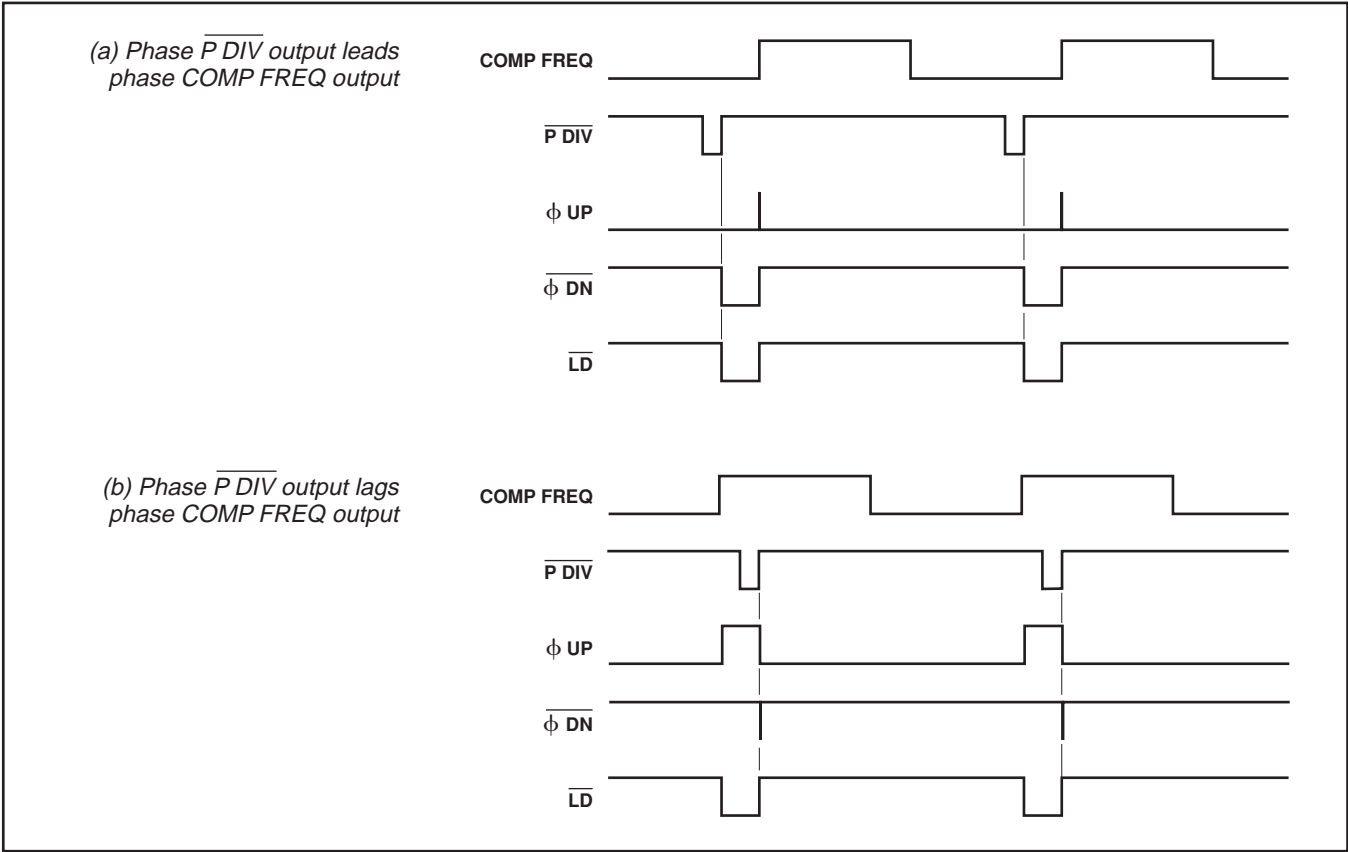
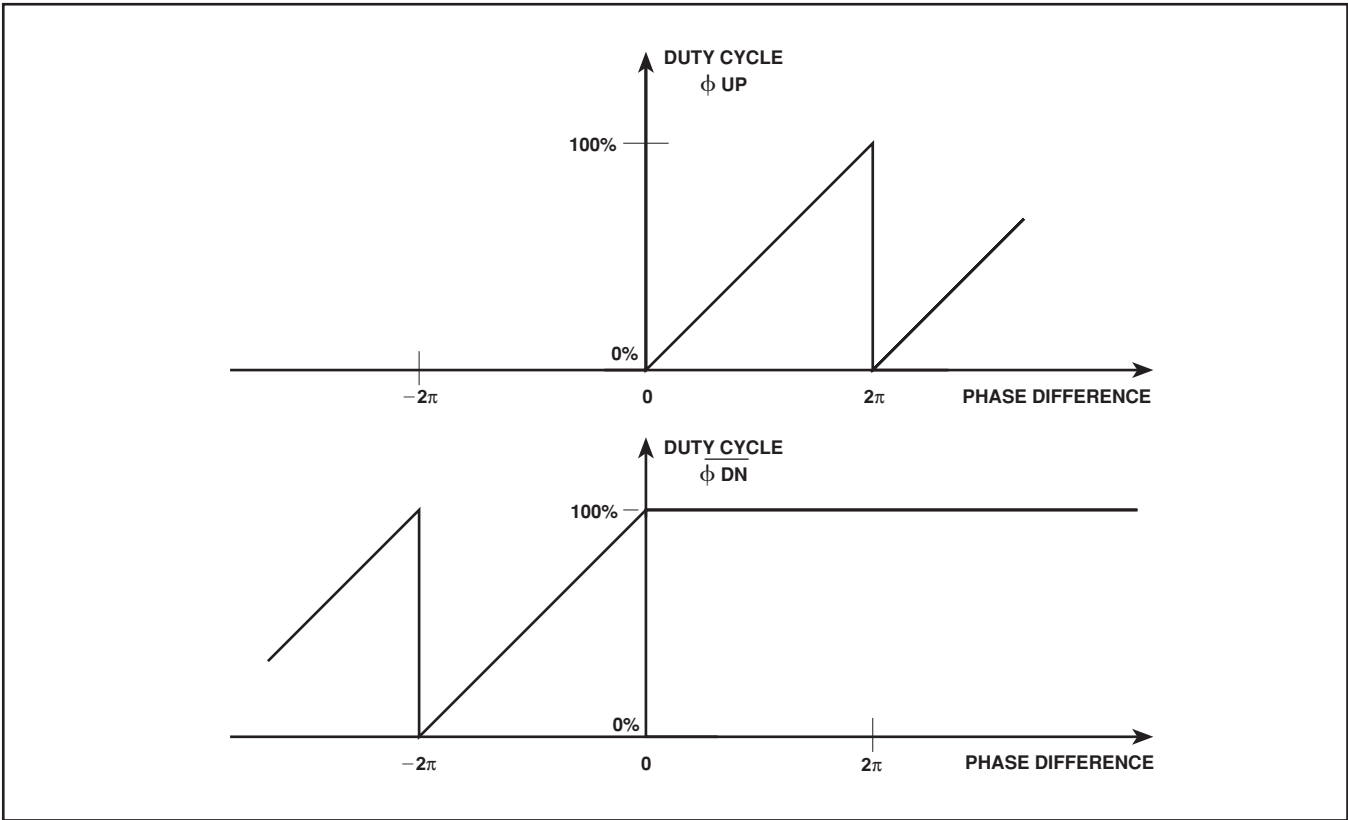

Fig. 6 Phase comparator waveforms
Fig. 7 Phase comparator output characteristics
The phase comparator consists of a digital type phase comparator with open drain ϕ UP and ϕ DN outputs and an open drain LOCK DETECT (LD) output. Open drain outputs from the reference divider and programmable divider are provided for monitoring purposes or for use with an external phase comparator. Waveforms for all these outputs are shown in Fig.6. The duty cycle of ϕ UP and ϕ DN versus phase difference are shown in Fig. 7. The phase comparator is linear over a $\pm 2\pi$ range and if the phase gains or slips by more than 2π , the phase comparator outputs repeat with a 2π period.
Once the phase difference exceeds 2π , the comparator will gain or slip one cycle and then try to lock on to the new zero phase difference. Note that very narrow pulses may be seen on the inactive phase comparator output at the end of the pulse on the active output, as shown in Fig. 6.